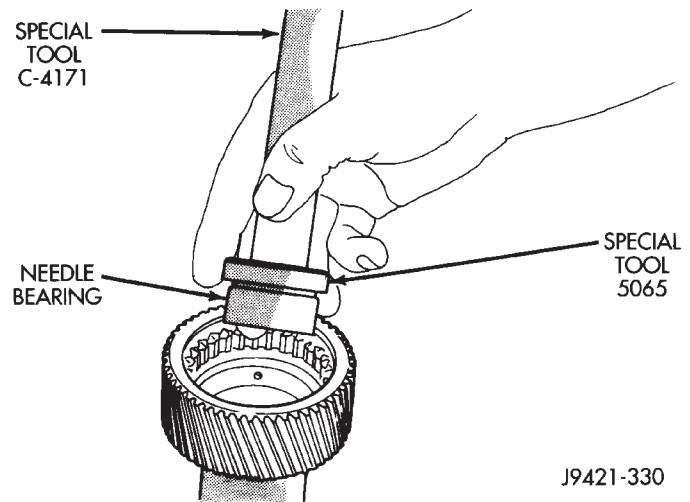

Fig. 40 Installing Mainshaft Pilot Bearing In Input Gear
(2) Install new needle bearing in input gear with Tool Handle C-4171 and Installer 5065 (Fig. 40).